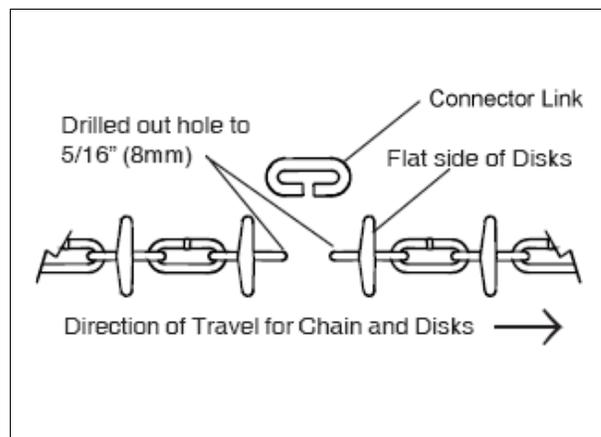

Figure 16A Chain and Disks with Connector Link
**WARNING:** The chain and disks must be installed in the right direction! The flat side of the disk must be the leading side (*See Figure 16A*). If the chain and disks are installed correctly, the disks will smoothly release from the drive sprocket after they travel around it and the system will be more efficient in transporting feed. If the chain and disks are installed incorrectly, the disks will catch on the drive sprocket during operation causing the system to be “jumpy” and resulting in excessive wear on the disks.
3. Connect one end of a section of chain and disks to the fish tape (**make sure the chain and disks are going in the right direction - See Figure 16A**).
4. Pull the section of chain and disks through the tubing until there is only about 5 feet (1.5 m) left in the drive unit. If the section of tubing is longer than the chain and disks, use more than one section of chain and disks and connect them together using a connector link. The plastic in the end links will need to be drilled out using a 5/16" drill bit , so the connector link will fit (See Figure 16A).
6. Connect one end of a new section of chain and disks to the fish tape (**make sure the chain and disks are going in the right direction** - See Figure 16A).
8. Connect the two sections of chain and disk together using a connector link (See Figure 16A). The plastic in the last link will need to be drilled out using a 5/16" bit so the connector link will fit.
5. Connect the ends using a connector link (See Figure 16A).
8. Connect the two ends of chain using a connector link (*See Figure 16A*).